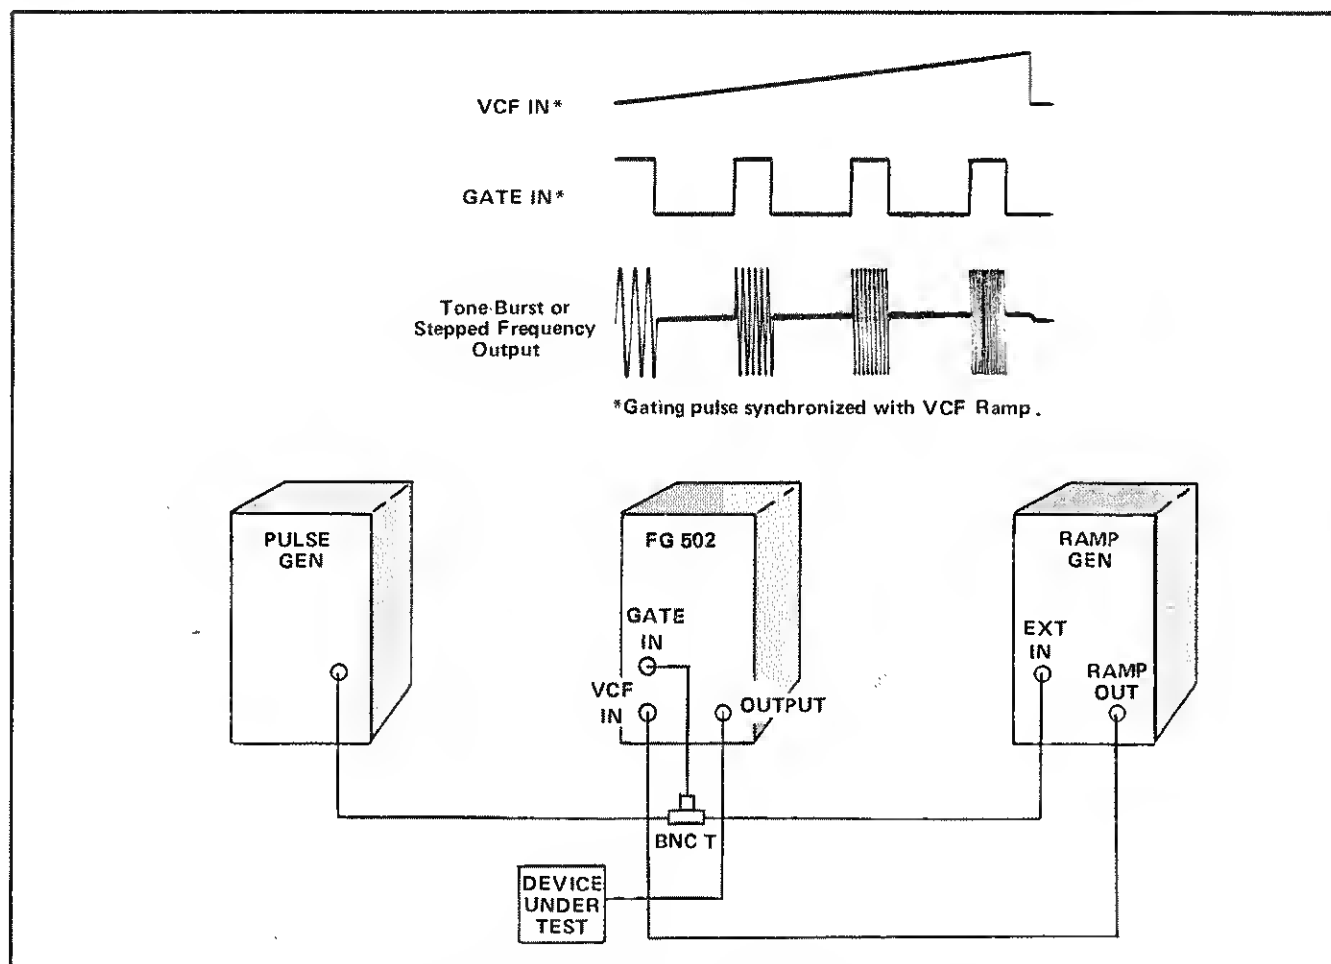

Fig. 1-7. Tone burst generation or stepped frequency multiplication.
1. Connect the equipment as shown in Fig. 1-7.